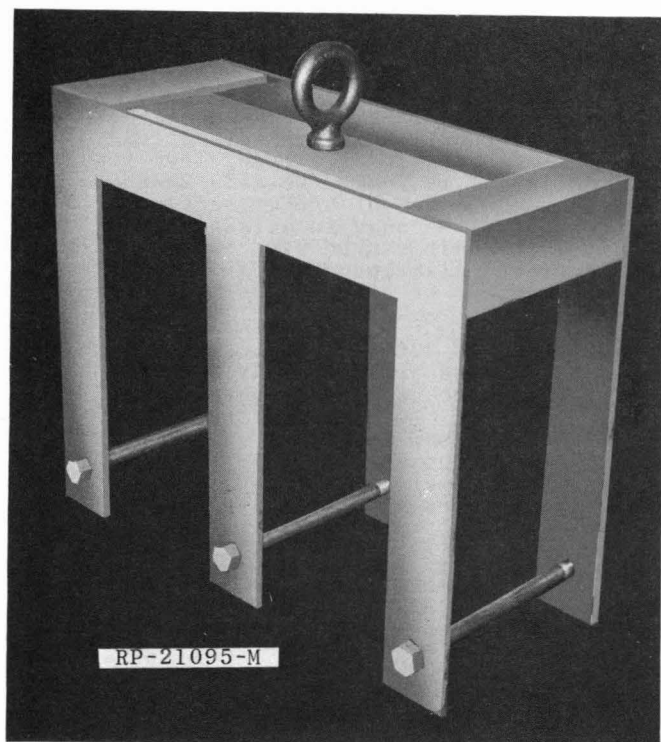

FIG. 7 R-3778 LIFTING JIG (Para. 3.33)
3.33 A lifting jig is necessary for hoisting vertically hung sections of duct. The R-3778, Lifting jig for Frank Adam Duct, (see Figure 7) slides on the end of the duct and is bolted thru the duct case using (3) 1/2" diameter steel support rods supplied by Frank Adam. These are the same bolts used to secure the support angles to the vertically hung duct. The duct supplier will provide holes in the duct case to accommodate the R-3778.